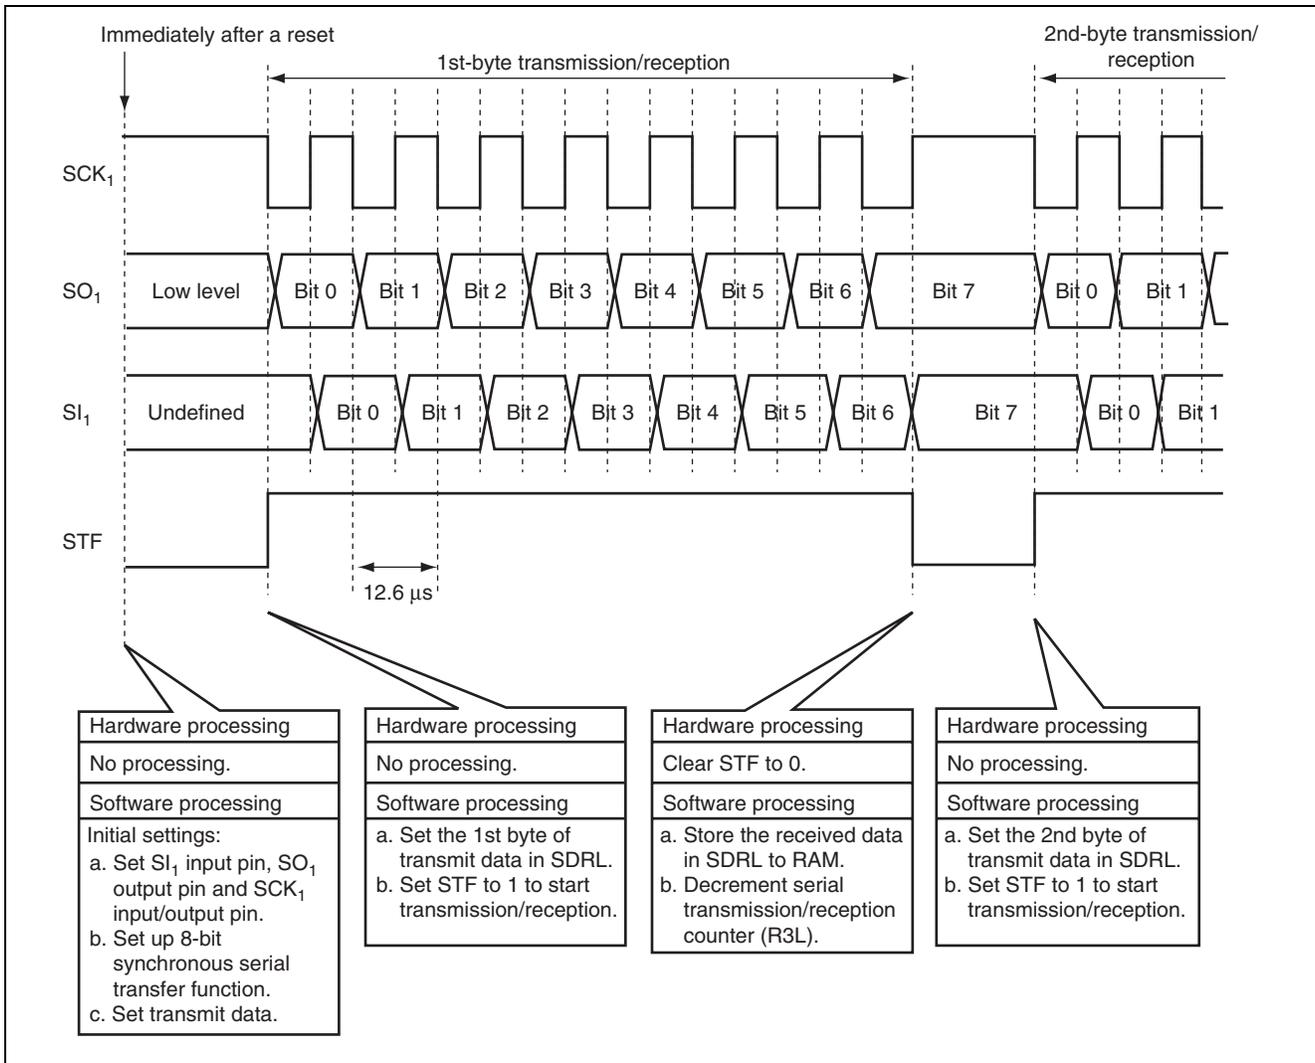

Figure 3.1 Operation Principles of Simultaneous Transmission/Reception in Synchronous Mode
1. Figure 3.1 shows the principles of operation. Simultaneous serial transmission/reception is performed in synchronous mode with the hardware and software processing shown in the figure.